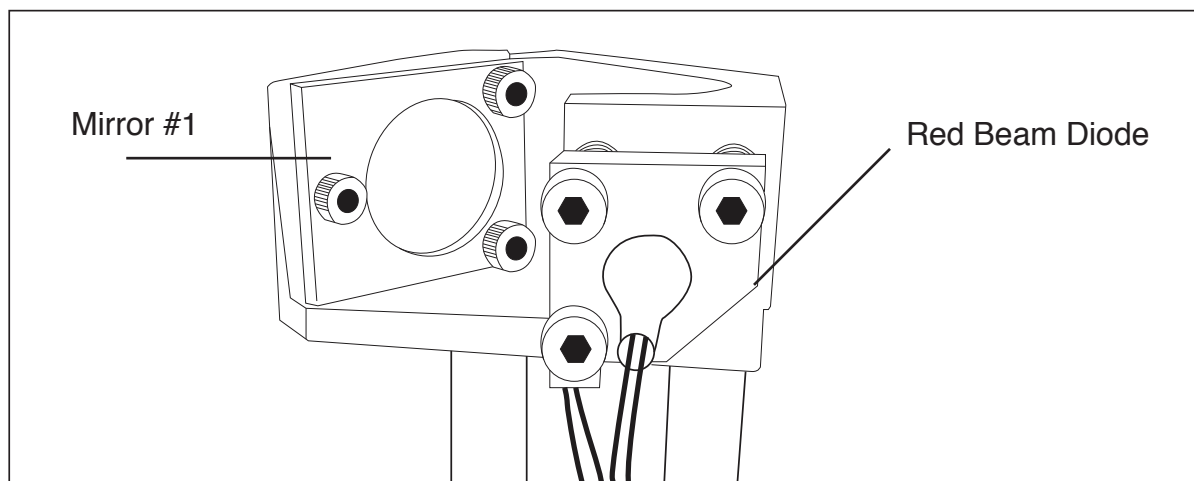

Figure 4.7
- 3. Position X-Gantry “Far”:** Jog or manually position the X-Gantry to the lowest position (as shown in Figure 4.7).
8. Re-Position X-Gantry back to “Far”: Jog or manually position the X-Gantry to the far position where you did the first test fire. (as shown in Figure 4.7).